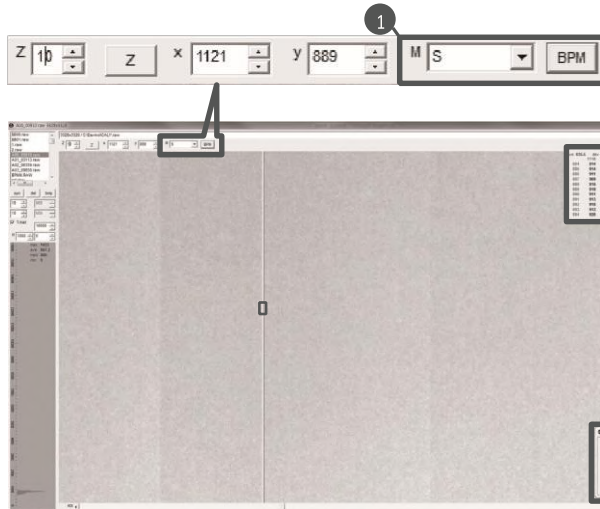

Figure 1. View Image
- ① At Figure 1, choose S from the list of M ① and click "BPM". Check if BPMM window is popped up as Figure 3.